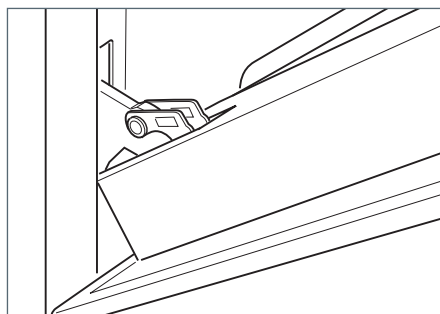

Fig.40d
- 4 Gently close the door until left and right hinge levers "A" are hooked to part "B" of the door (Fig. 40d).